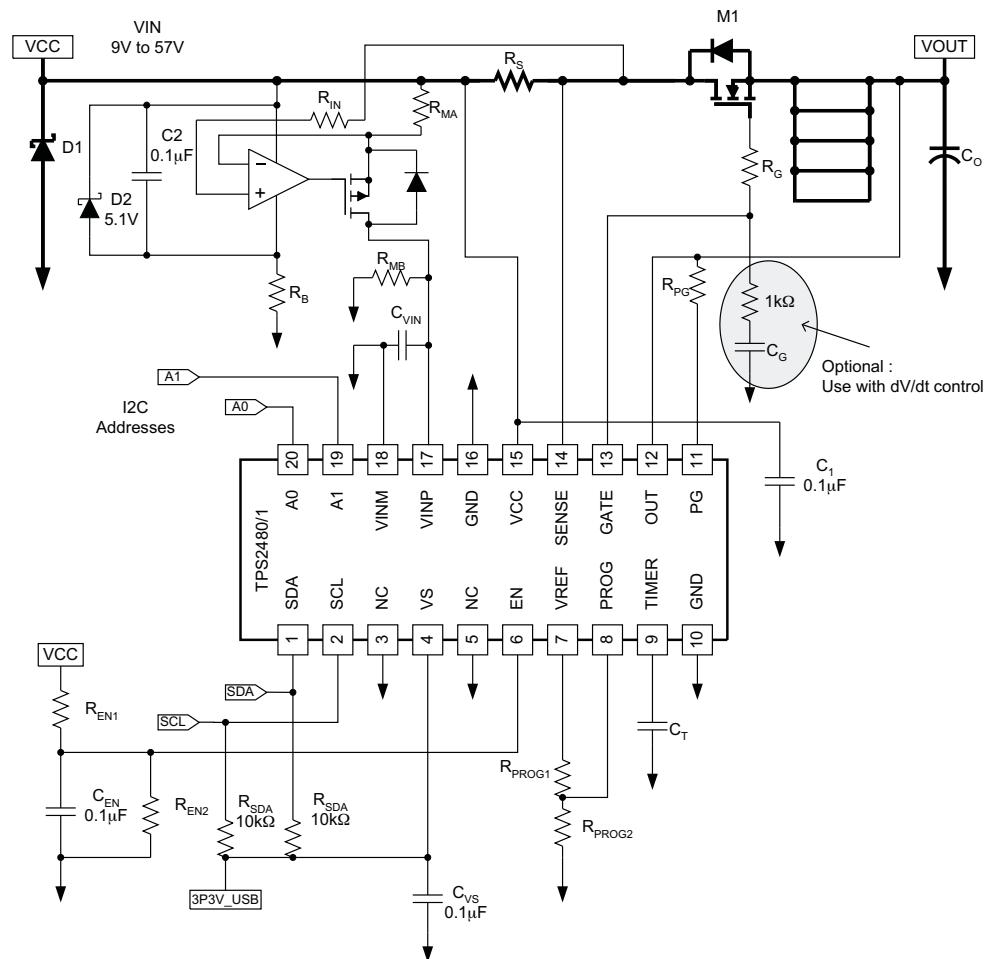

Figure 19. TPS2480/81 High Voltage Application
The TPS2480/81 can be used to monitor current from a voltage source greater than 26 V by using the OPAMP circuit shown in Figure 19.
(2) Read data is from the last register pointer location. If a new register is desired, the register pointer must be updated. See Figure 19.
(3) ACK by, Master can also be sent.